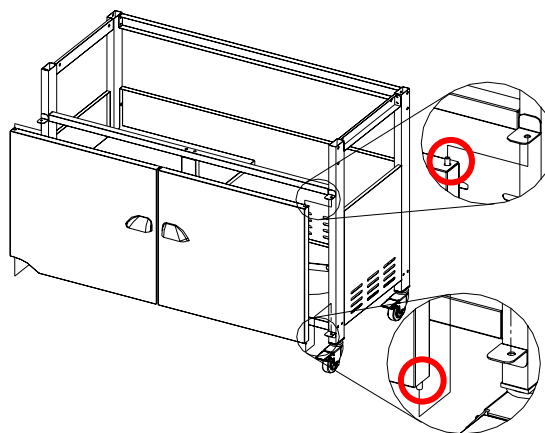

Figure 9
5. Insert right door bottom hinge pin into hole in door bottom bracket on cart. Push down on top door hinge pin to insert it into hole in door top bracket on cart. Repeat for other door. (Fig.9)